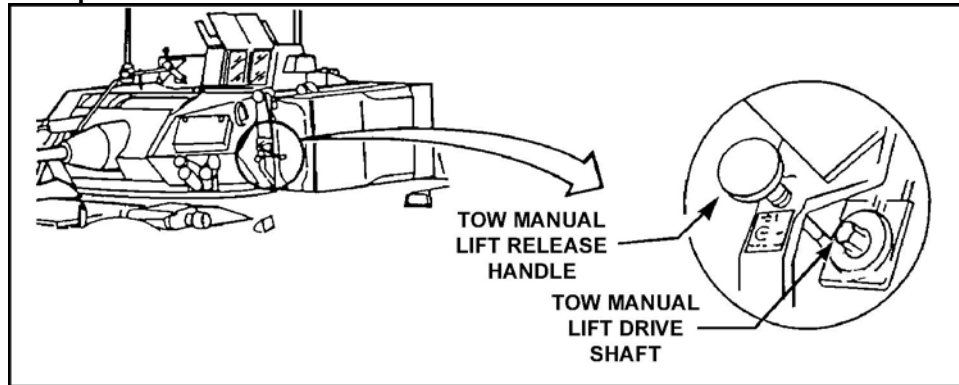

Figure 7. TOW manual lift drive shaft.
- f. Raise the TOW launcher to the firing position by using the 14-mm ratchet wrench on the TOW manual lift drive shaft by turning clockwise until the launcher is fully elevated and the TOW light comes on (Figure 7).